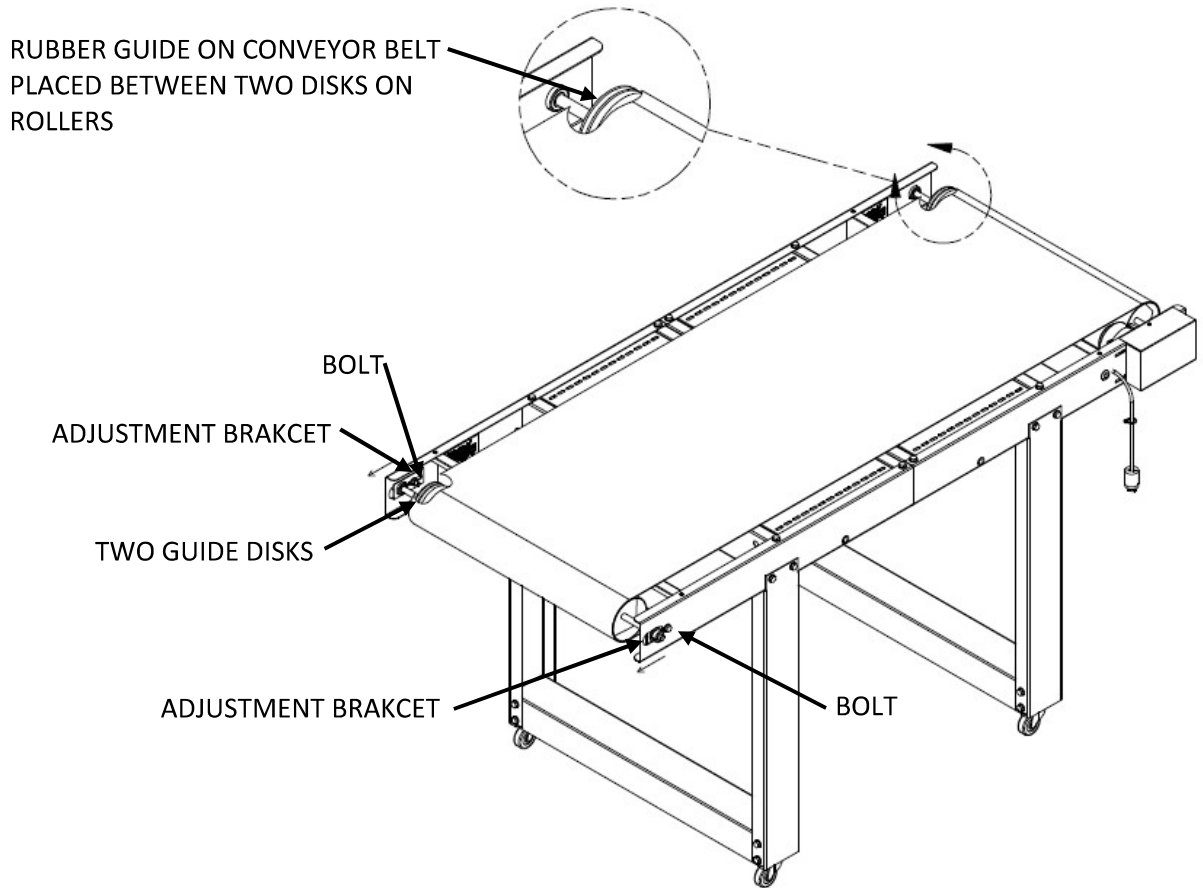

Figure 4
3. Lay the **CONVEYOR BELT** onto the **CONVEYOR** aligning the rubber edge guide of **BELT** with the **TruTrak ROLLER GUIDES** on the **CONVEYOR** (see **Figure 4**).